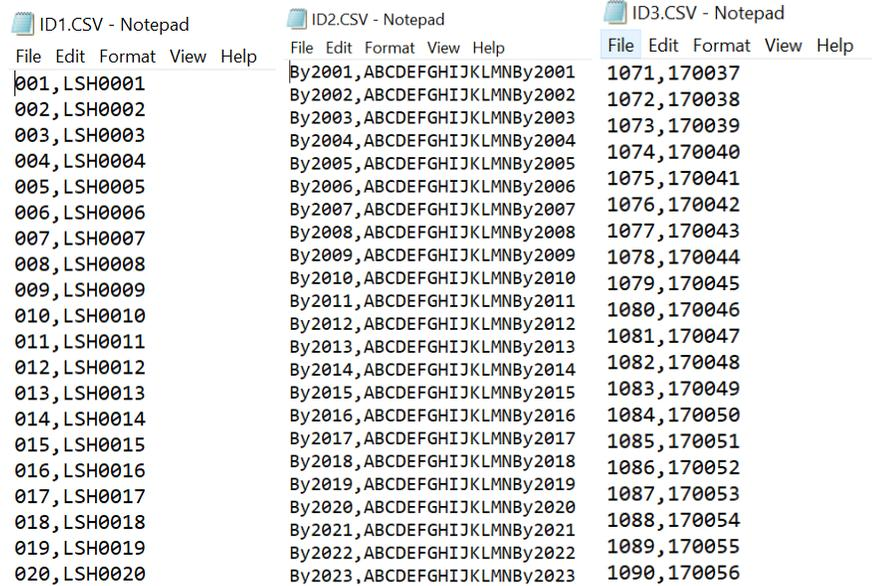

Figure 3-45: Sample ID Value Files
- Note that these ID files should contain both ID index and ID descriptions; are named **ID1**, **ID2** and **ID3**; and are saved in .csv format, as shown in Figure 3-45.